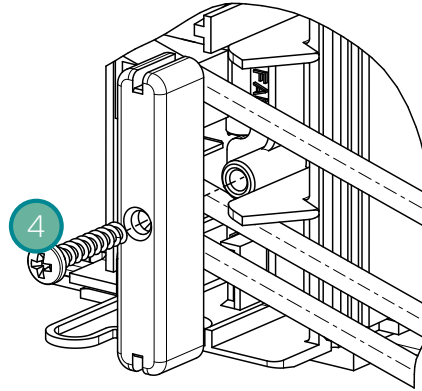

Figure 3.12: Step 2
2. Assemble the fixing clip as shown in Figure 3.12.
- The screw shown in Figure 3.12 must be fixed with a torque within 0.8 - 1.2 Nm.